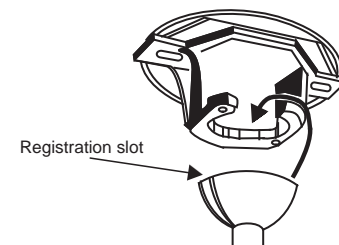

Fig. 11
Step 9. Lift the motor assembly into position and place the hanger ball into the ceiling mounting bracket. (Fig. 11)
Rotate the entire assembly until the "Check Tab" has dropped into the "Registration Slot" and seats firmly. (Fig. 11)